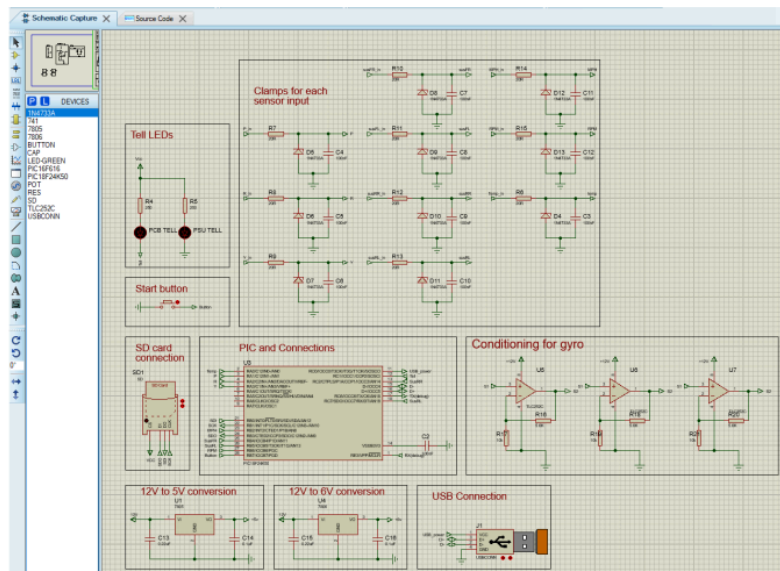
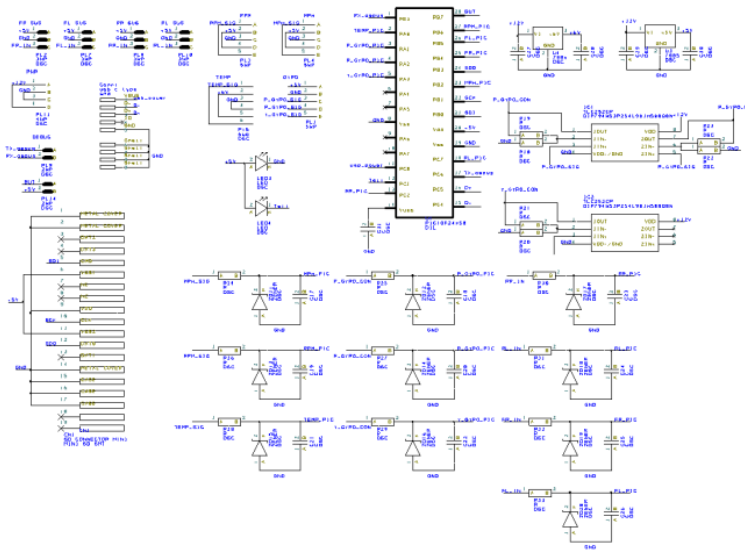

Figure 11: Proteus Circuit Diagram
Figure 12: EasyPC Circuit Diagram
- When creating the connectors aim to use different headers for each type of connection. Using a 4 pin for Power, 5 Pin for MPH ect as seen in Figure 12. This is done in the aim to prevent errors when being assembled, preventing damage to be caused to the sensors or PIC.
The Proteus circuit diagram can be seen in Figure 11 and EasyPC in Figure 12.